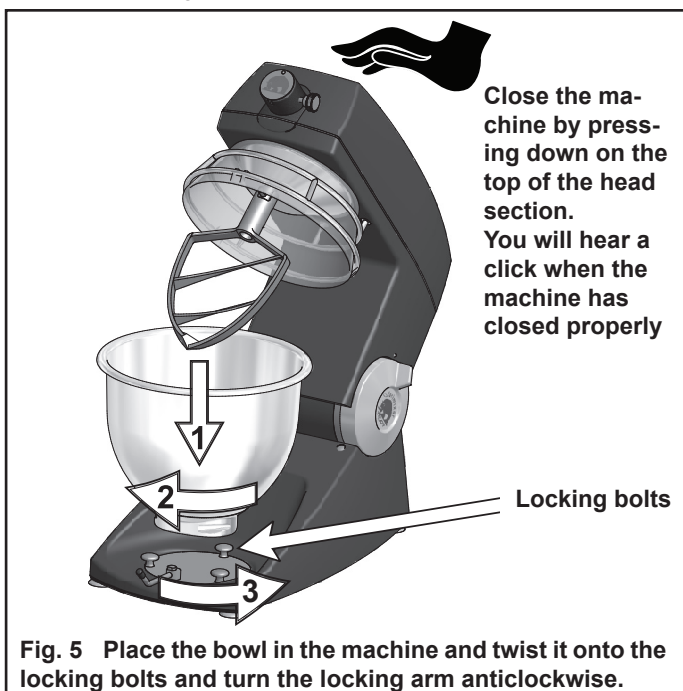

Fig. 5 Place the bowl in the machine and twist it onto the locking bolts and turn the locking arm anticlockwise.
- D. Place the bowl between the three locking bolts in the foot of the mixer and turn it clockwise until locked (fig. 5). Turn the locking arm anticlockwise to hold the bowl.